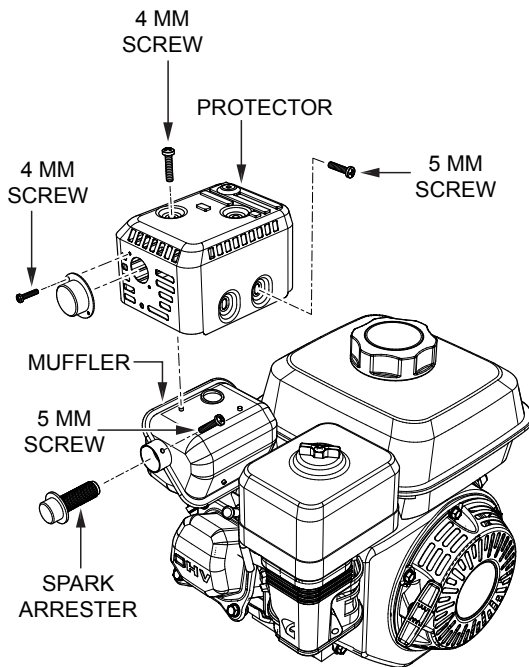

Figure 23. Spark Arrester Removal
1. Remove the 4 mm screw (3) from the exhaust deflector, then remove the deflector. See Figure 23.
2. Remove the 5 mm screw (4) from the muffler protector, then remove the muffler protector.